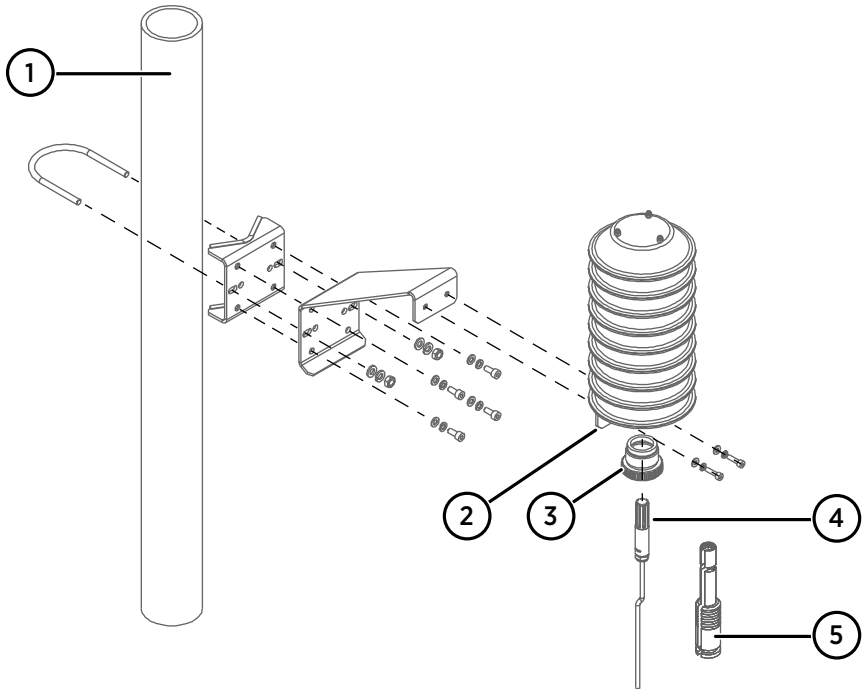

Figure 20 Mounting DTR502B on a pole mast
- 1. Mount the solar radiation shield in the measurement location using the provided mounting accessories, screws, and washers. You can mount the radiation shield to a pole mast as shown in Figure 20 \(page 39\), or to a horizontal beam directly from its support plate.